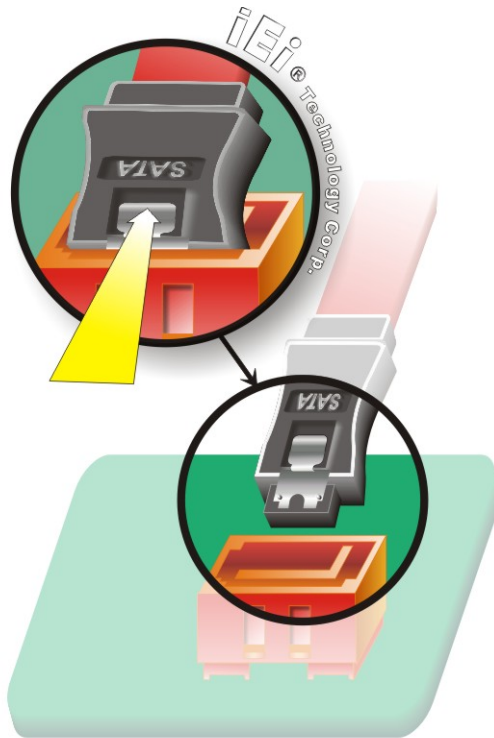

Figure 5-14: SATA Drive Cable Connection
Step 2: Insert the cable connector. Press the clip on the connector at the end of the SATA cable and insert the cable connector into the on-board SATA drive connector. See **Figure 5-14**.